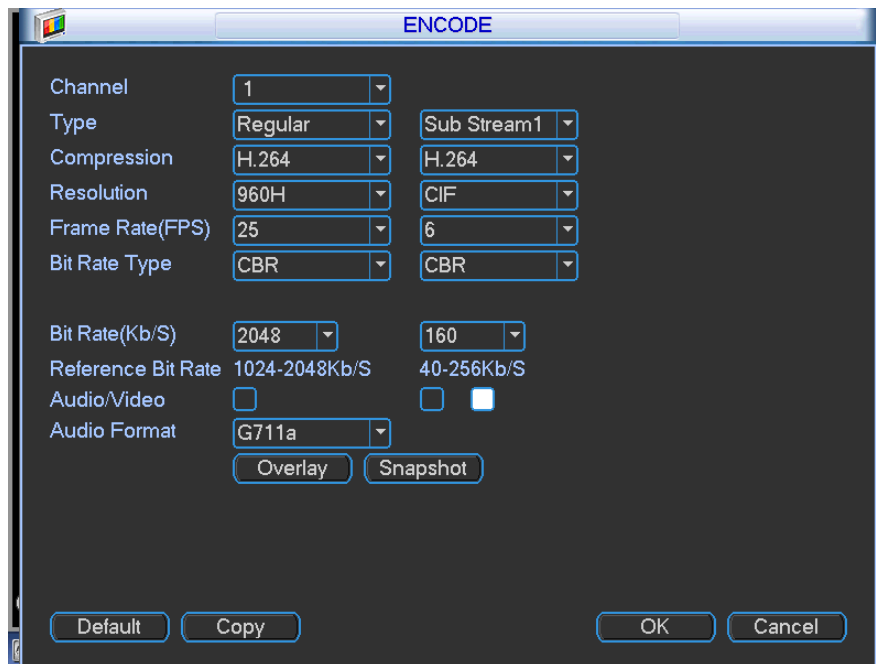
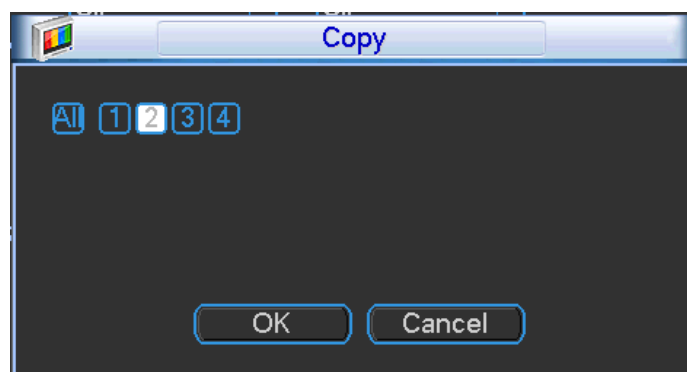

Figure 4-36
Figure 4-40
Encode setting includes the following items. See Figure 4-36.
- Copy: After you complete the setup, you can click Copy button to copy current setup to other channel(s). You can see an interface is shown as in Figure 4-40. You can see current channel number is grey. Please check the number to select the channel or you can check the box ALL. Please click the OK button in Figure 4-40 and Figure 4-36 respectively to complete the setup.